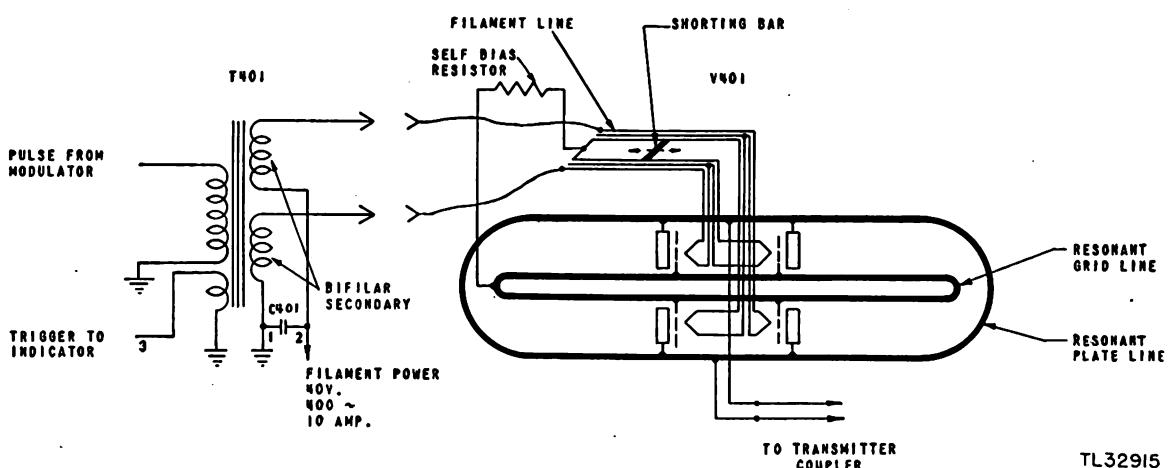

Figure 16. Transmitter functional schematic.
*d. Pulse Transformer (fig. 16).* The pulse transformer is located in the sealed oil compartment of the modulator unit. It is of the bifilar (twin winding secondary) type and is capable of passing high-frequency pulses of 1.5 microseconds duration. This 1 to 3 step-up transformer receives a positive, 8,000-volt pulse on the primary from the discharge of the pulse-forming network. The output from the secondary is a 24,000-volt negative pulse applied to the filament and plate of the transmitting tube.